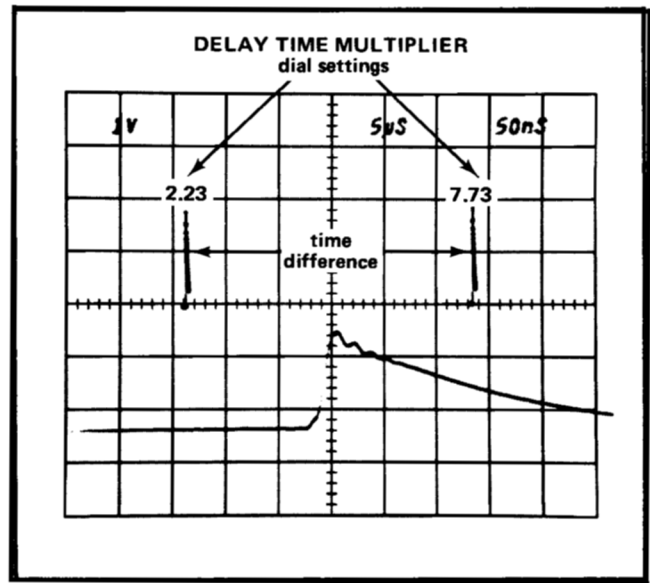

Fig. 2-12. Measuring time difference using delayed sweep.
2. Set the VOLTS/DIV selector to produce a display about three divisions in amplitude (see Fig. 2-12).
5. Set the 7B70 (B) TIME/DIV to a setting 1/100 of the A TIME/DIV sweep rate. This produces an intensified portion about 0.1 division in length.
Example: Assume the first dial setting is 2.23 and the second dial setting is 7.73 with the TIME/DIV set to 5 μs (see Fig. 2-12).